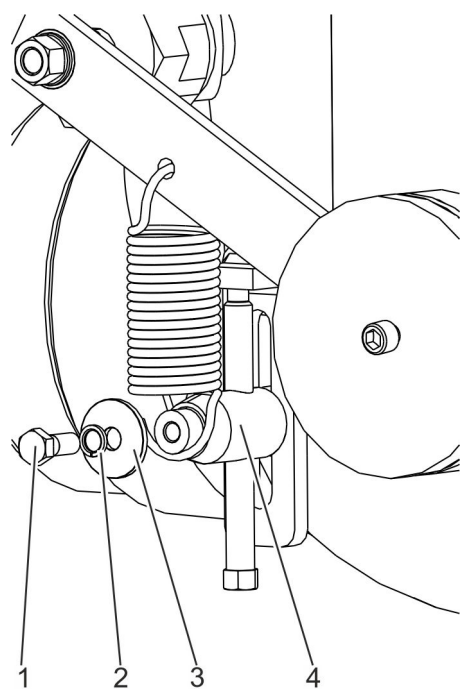

Fig. 46: Fastening the spring to the retaining pin
- Carefully engage the spring on the retaining pin (Fig. 46/4).
- 24.** ▶ Fasten the spring with washer (Fig. 46/3), snap ring (Fig. 46/2) and bolt (Fig. 46/1) to the retaining pin (Fig. 46/4).